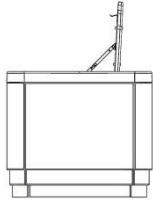

Fig 2
2. Fill the bath with water to your requirement level. The platform may be lifted to observe the depth of water (fig 2).